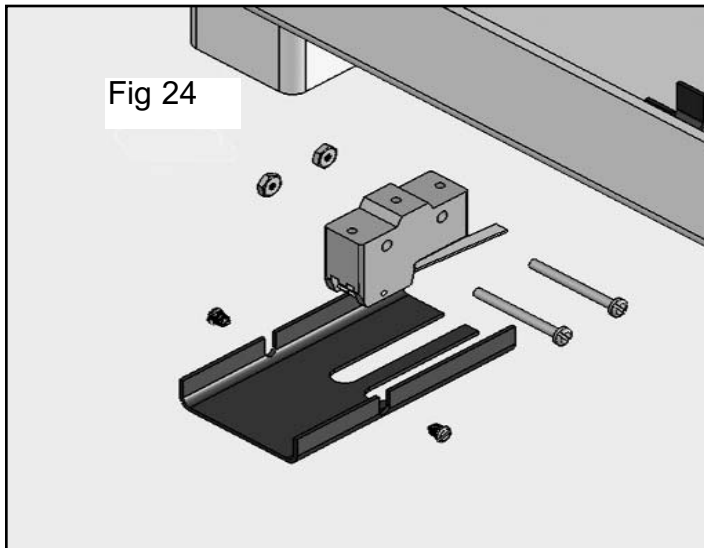

Fig 24
1. After safeties have been adjusted and checked for proper operation, install the two cover plates as shown below. ( See Fig. 24 & 25)